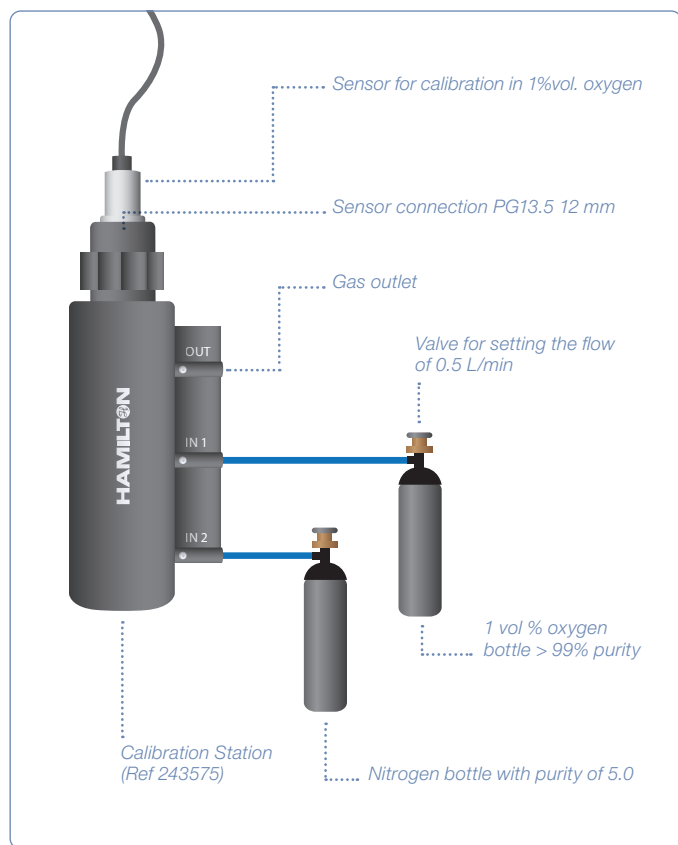

Figure 15: Calibration setup in oxygen point
- 1) Install the sensor into the calibration station and connected the 1%-vol calibration gas (Figure 15)